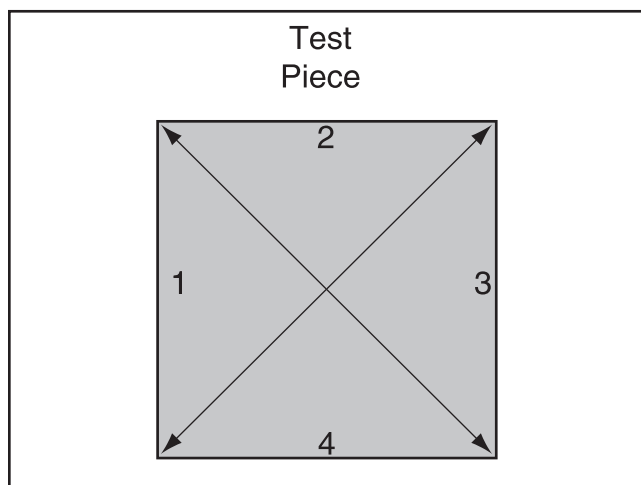

Figure 96. Fence adjustment test piece.
4. Measure the test piece diagonally from corner-to-corner as shown in **Figure 96**.